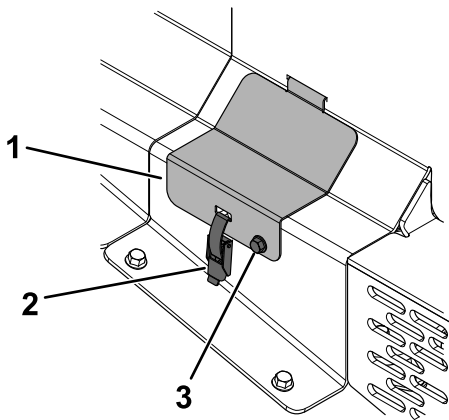

Figure 43
2. Remove the bolt and unlatch the cover (Figure 43).